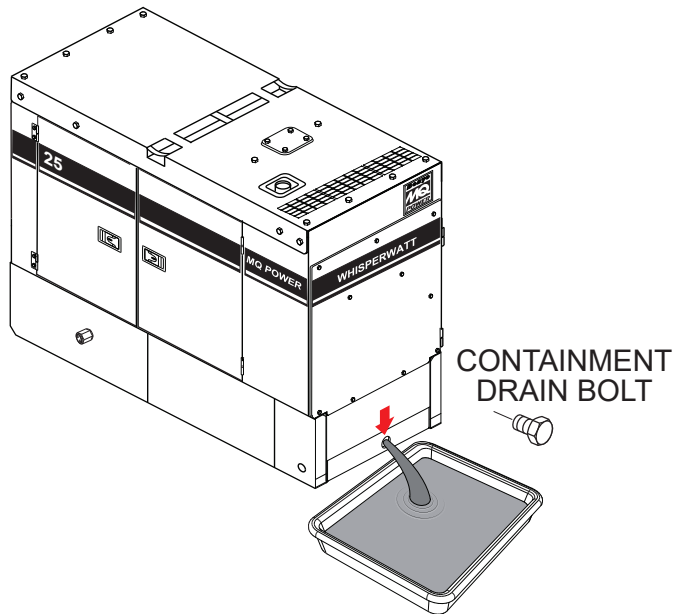

Figure 60. Draining Containment Tank
2. If the tank becomes full with fluids, remove the drain bolt (Figure 60), then allow the fluids to drain into a suitable container.